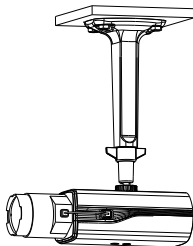

Figure 2-11 Fix the Camera Housing
3. Attach the camera to the ceiling mount and tighten the fix screw to fix the camera. As shown in Figure 2-11.